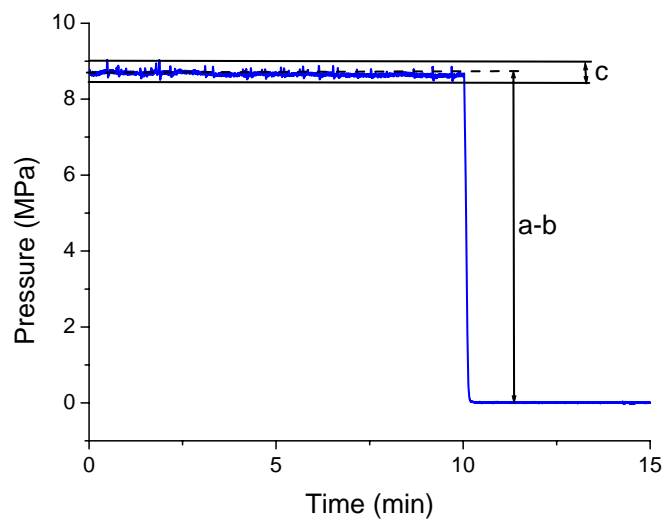

Fig 13. Calculation of pressure pulsations %P.
9. Calculate the residual pressure pulsations in the following way (see figure 13):